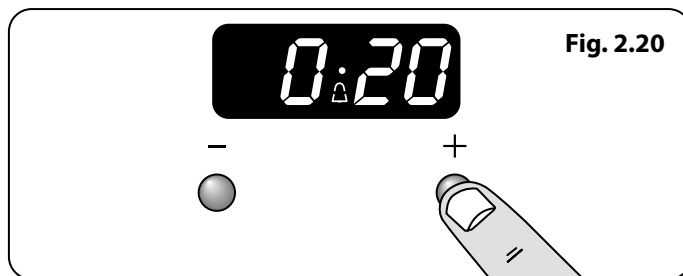

Fig. 2.20
1. Press the [+] button once. The bell symbol [🔔] will flash on the display. Select the desired countdown from 00.01h to 23.59h using the [+] button (**Fig. 2.20**). The countdown will automatically begin and the [🔔] symbol will show in the display.